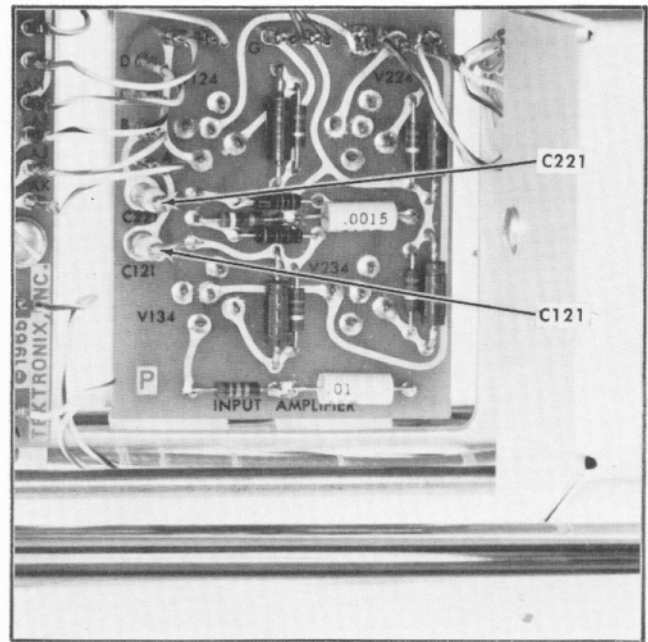

Fig. 6-18. Location of adjustments for steps 11 and 12.
d. Set the —INPUT AC-GND-DC switch to DC. Observe the upper leading corner of the waveform. It should appear similar to the display shown in Fig. 6-17a. Tolerance of the aberration should be no greater than $\pm 3\%$ (± 1.5 mm). If the corner aberration is excessive (see Fig. 6-17b), adjust C221 (see Fig. 6-18) for best square corner.
12. Adjust C121—Cross Neutralization ①
c. Set the +INPUT AC-GND-DC switch to DC and observe the lower leading corner at the bottom of the second cycle on the display. The waveform should appear similar to the one obtained in step 11d and shown in Fig. 6-17a except the bottom corner is the point of interest. If the front-corner aberration is greater than $\pm 3\%$ (± 1.5 mm), adjust C121 (see Fig. 6-18) for best corner.